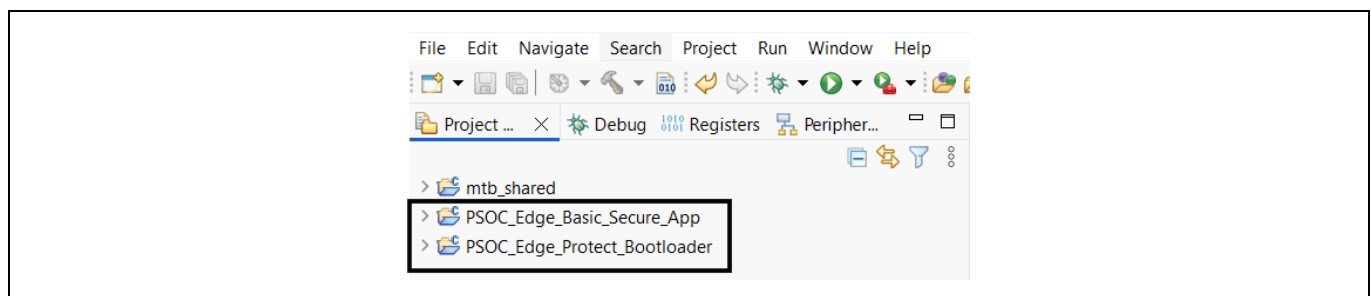

Figure 8 Project explorer window
- When you click **Create**, two new ModusToolbox™ applications are created. You can see both applications in Project Explorer window as shown in Figure 8.